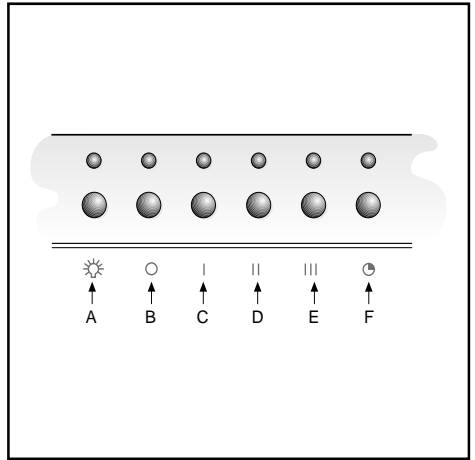

Fig.7
- The active carbon filters purify the air that is replaced in the environment. The carbon filters are not washable nor re-useable and must be replaced at maximum every four (4) months. The saturation of the active carbon filter depends on the frequency of use of the appliance, by the type of cooking and the regularity of cleaning the anti-grease filters.
• COMMANDS Fig.7 :